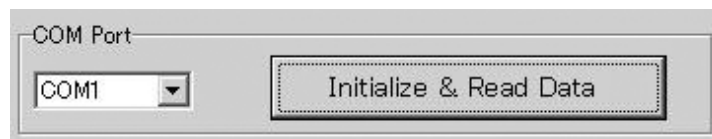

Figure 60
4. Select a COM port to which Data Cable is connected. (Figure 60)
5. Press the "Initialize & Read Data" button. (Figure 60)